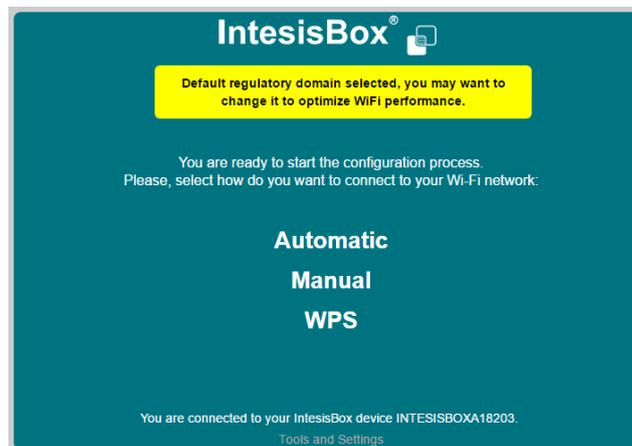

Figure 52. IntesisBox connection options.
**Step 2:** Connect the PC or mobile to this network and use the following web page to connect the WiFi device to the WiFi network: [wmpconfig.com](http://wmpconfig.com) (Figure 52).